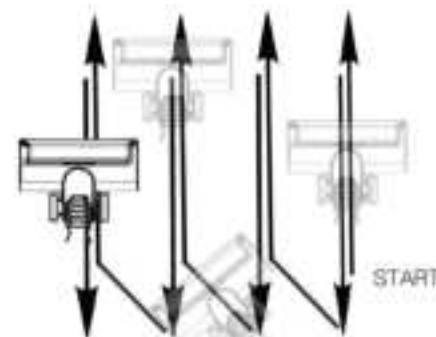

Fig 2
3. Move in forward direction to pick up dirt, pull back along the cleaned track, turn slightly and push forward to continue picking up the next track of dirt in ladder pattern (Fig 2).